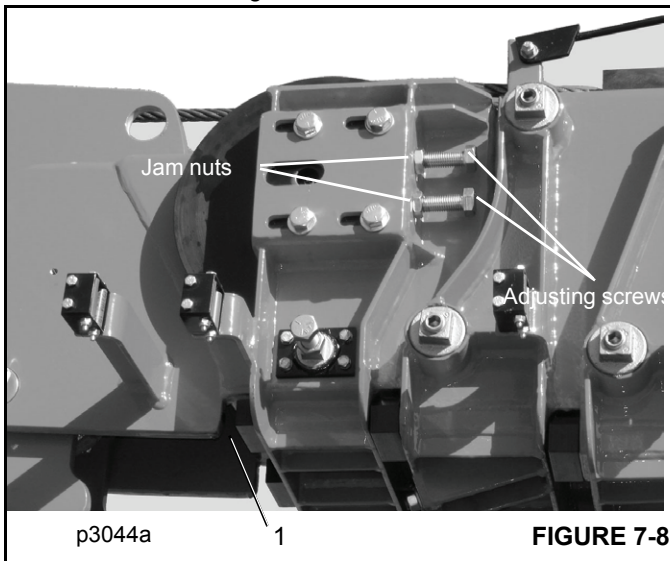

FIGURE 7-8
3. To tighten the cable, loosen the jam nuts on the two adjusting screws shown in Figure 7-8. Turn the two screws in until the cable will deflect approximately 1/2" (12.2 mm), by pressing on top of the cable. Do
4. Figure 7-8. 5th Section Extend Cable Tension Adjusting Bolts
8. When all boom adjustments are correct, the gap (1, Figure 7-8) between the 4th section stop blocks and the 5th section must be between .75" to 1.5".